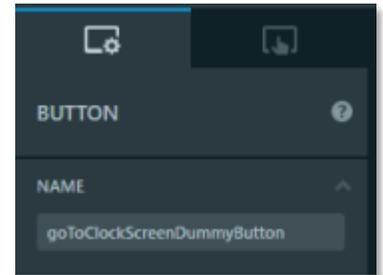

Figure 41
- Only the names of the dummy buttons need be changed; the appearance and other properties of the buttons do not matter because the buttons will not be visible on the screen. With a dummy button selected, its name can be changed on the Settings tab (see Figure 41) located on the right side of the TouchGFX Designer window. These are “dummy” buttons because they are merely being used to generate code that can be used by the virtual function to change screens (not to mention that the Marlin display does not support touch screen buttons).